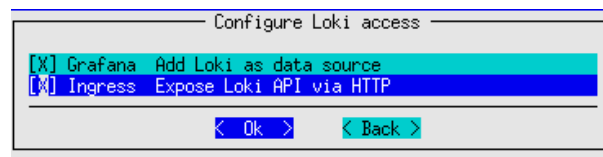

Figure 5.3: Setting up Loki as data source for Grafana, and Loki access via Ingress
- In the screen that asks about Loki access (figure 5.3):